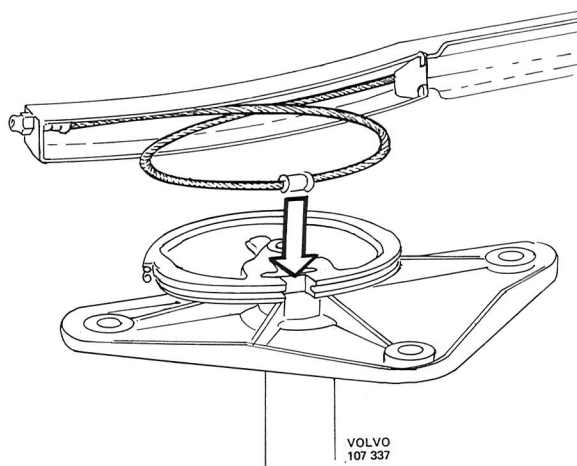

Fig. 3-140. Installing cable for drive link and parallel drive link, left-hand side
1. Place the cable's flange nipple in the segment recess and then lever the cable over the segment, see Fig. 3-140. This work should be done with the greatest care in order not to score the segment or damage it in any other way, as this would lead to disturbance in operation.
1. Place the cable's flange nipple in the large segment recess and thereafter prise the cable over the segment, see Fig. 3-140. Great care should be observed when doing this in order not to score the segment or damage it in any other way, otherwise this might lead to disturbance in operation.
2. Place the drive link cable's flange nipple in the front segment recess and thereafter prise the cable over the segment, see Fig. 3-140. Attach the drive link to the lever on the wiper motor. Tension the cable.